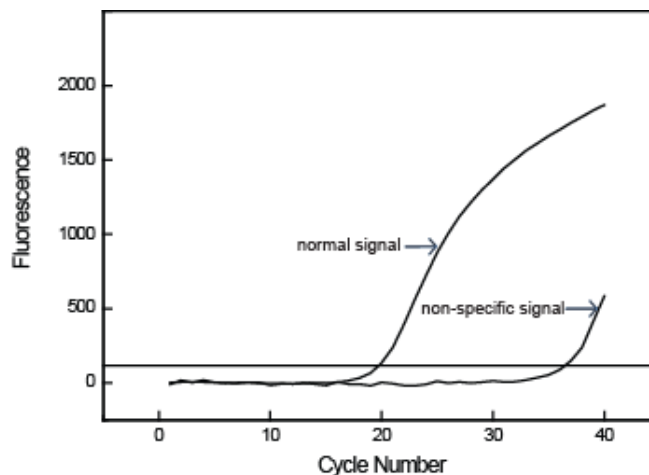

Figure 4. Non-specific signal in sample
- C_q values for positive sample signals other than Cy5 should be below 30. C_q values above 30 might be non-specific amplification (shown in **Figure 4**). Repeat the test with fresh RNA, if the second test is positive, the